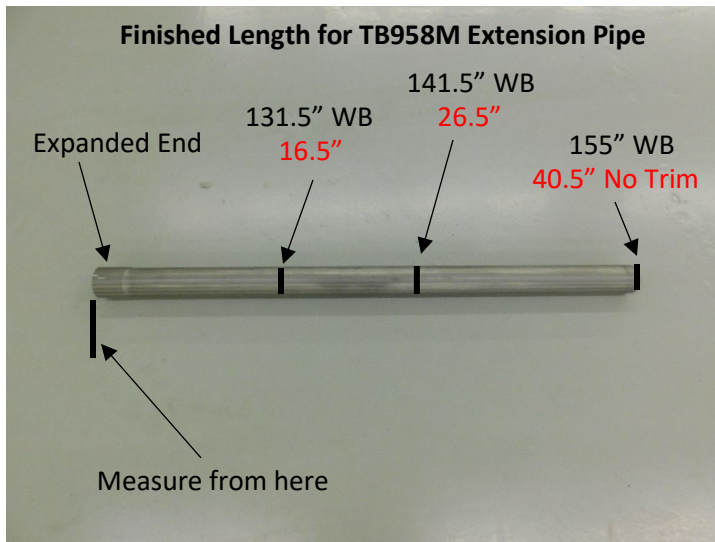

Figure.2
Important: If trimming of the Muffler extension pipe is required, measure from the expanded and notched section for finished extension pipe length. **Figure.2**
4. Use the extension pipe reference chart to determine the correct cut length for your wheelbase vehicle (Page. 3). Trim the extension pipe as shown in **Fig.2 if used.**